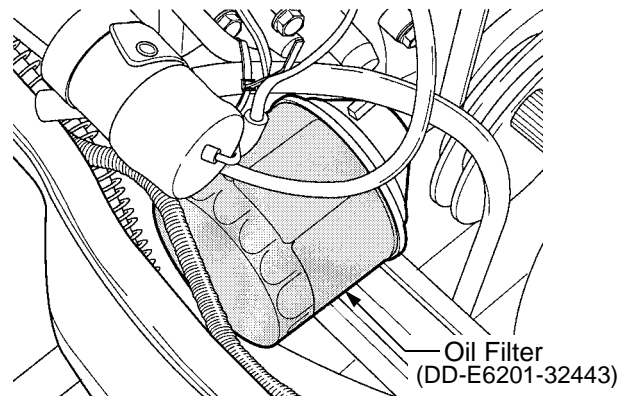

Figure 57
- Move the drain pan beneath the filter, then remove the filter by turning it counterclockwise using a filter wrench to loosen. See Figure 57.